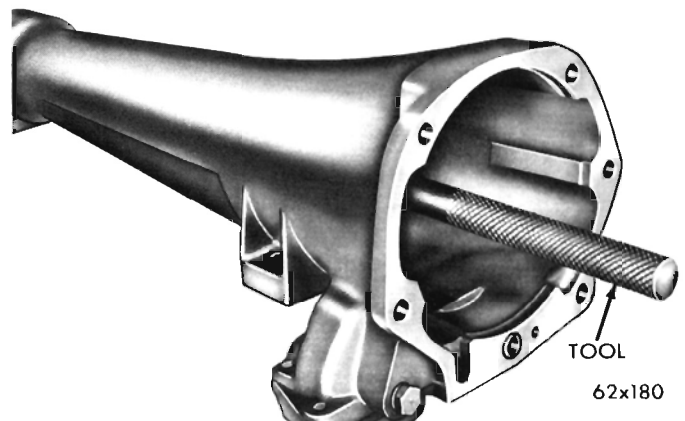

Fig. 49—Removing Output Shaft Bearing
(1) Pry or drive the oil seal out of the extension housing with a long blunt drift. Be sure not to mar the oil seal surface in the housing.
(2) Remove the bearing snap ring from the extension housing. Drive the bearing rearward out of the housing with Tool C-3275 (Fig. 49).